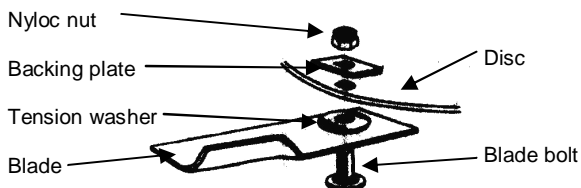

Figure 5. Blade fasteners
- Fit the new blades, blade bolts, washers and nuts in sets to maintain balance. Refer to figure 5 for correct order.